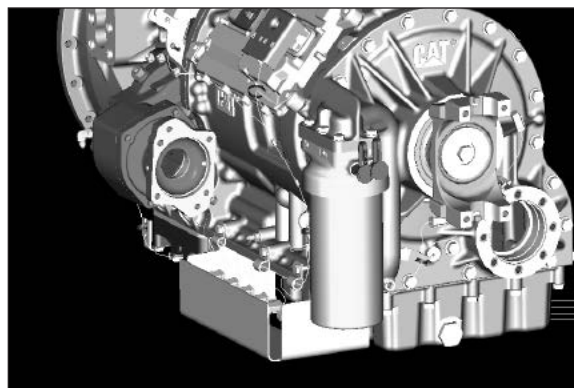

Fig. 34
NOTE: There are two (2) high pressure ports available. Use the port located on the driver's side of the transmission unless there is an interference issue with a pump or driven object (**Fig. 34**).